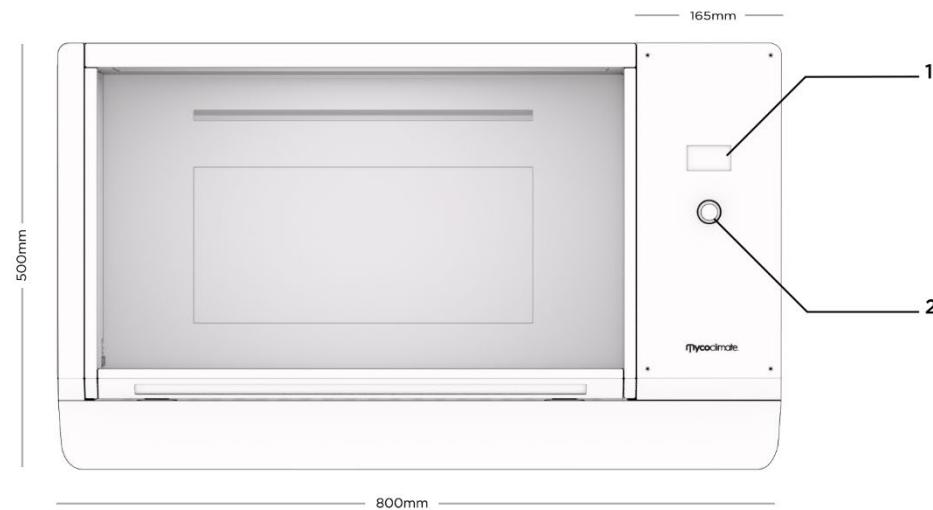

FIG. 1
**Figure 1** is a front view of the chamber.